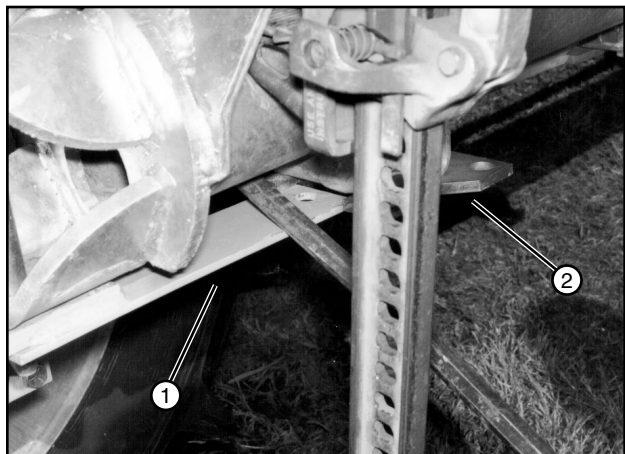

Figure 82-3 1. Steering Arm 2. Latch Plate
6. Make sure the steering arm is latched in the latch plate. See figure 82-3.